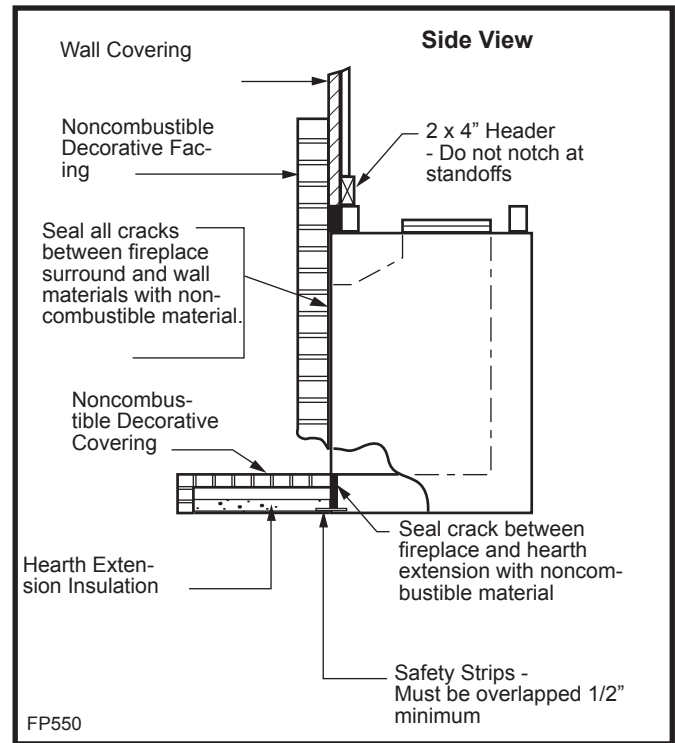

Fig. 22 Sealing gaps.
**WARNING: Hearth extension must be installed in accordance with Figure 22 and must not cover the bottom front opening of the circulating model.**